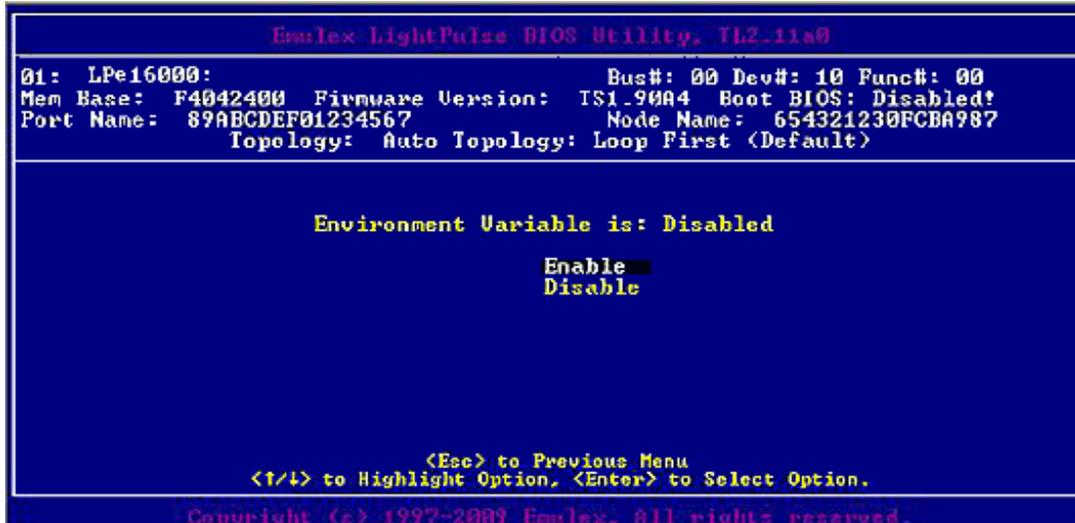

Figure 4-17 Enable or Disable Environment Variable Screen
2. Select **Enable or Disable** and press **<Enter>**. The Enable or Disable Environment Variable screen (Figure 4-17 on page 40) is displayed.